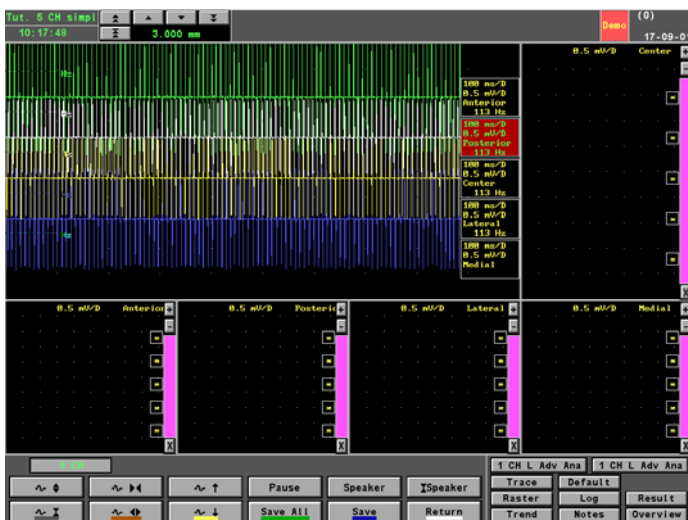

Figure 63
- You select trace 4 by clicking on the Information Box "Posterior" situated to the right of the trace in the Trace Window. See Figure 63 below.